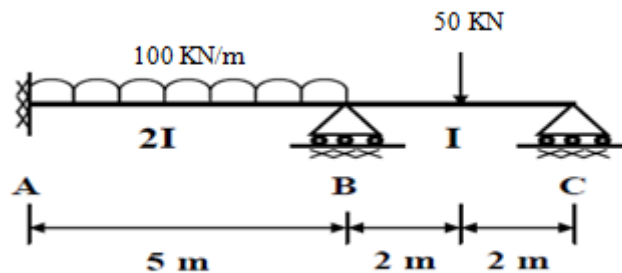

Figure 1(Q-3(b))
- (b) Draw SFD and BMD for the continuous beam as shown in figure 1 using moment distribution method.. **07**